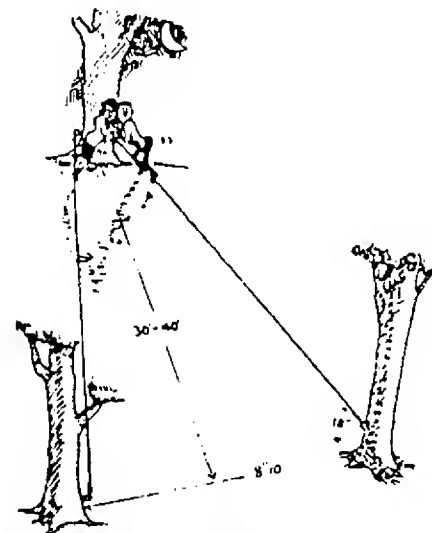

Figure 416 The Jiggler
39. The Jiggler: In this exercise, two people attempt to make their way to the end of two diverging cables or ropes without falling off. The cable is from one to two feet above the ground and may be 25 to 40 feet long. One good method of setting it up is to use a long $\frac{3}{8}$ inch cable and encircle three well-spaced trees, such as in Figure 416. The two participants start out on the narrow end and work their way to the wider end. Leaning on one another is a good method of using teamwork.